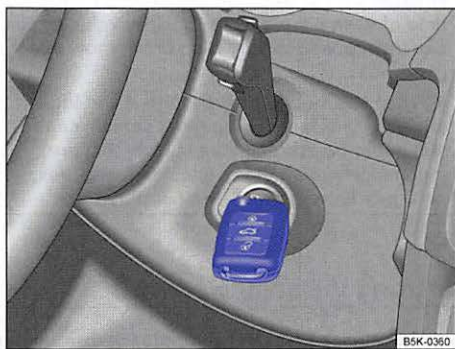

Fig. 106 Emergency start feature for vehicles with Keyless Access.
- Make sure the selector lever is in the Park (P) position.
- Hold the remote control vehicle key to the right of the steering column trim immediately after pressing the starter button $\Rightarrow$ fig. 106.